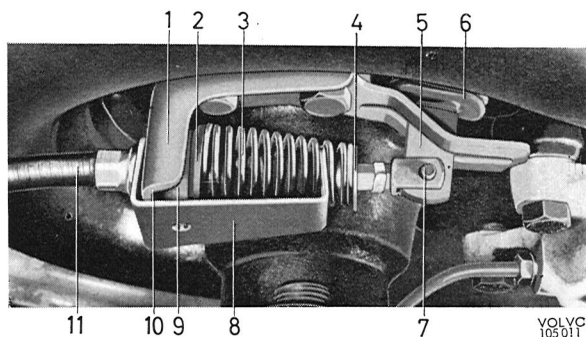

Fig. 5-79. Installing spring tool
3. Check that the brake pads are not stuck to the brake disc. To prevent the lever when adjusting from influencing the shoes and thus give misleading results, the spring tension acting on the lever should be reduced. This can be done by installing holder 2742 (Fig. 5-79) or by disconnecting the cable from the lever.
5. Place holder 2742 so that the return spring is held in position according to Fig. 5-79. Bend up the lock and remove the lock pin so that the cable releases from the lever.
washers and return spring. Compress the spring with the holder tool, see Fig. 5-79. Oil the lock pin and install it together with the cable on the lever. Install the attachment and rubber cable guide on the frame member.